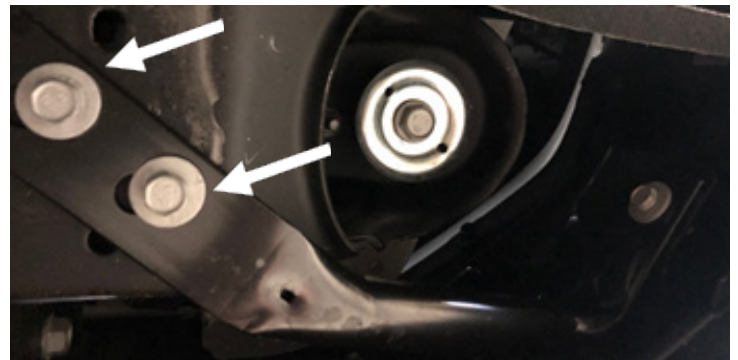

Figure 9
9. From under the truck: use a 15mm socket wrench to remove the two (2) back bolts on the bumper support bracket on both sides. Figure 9.
10. With the grill gone you can access the bumper mounting bolts on the top deck. Use a 15mm socket wrench to remove the two (2) bolts one of the top (Figure 9) and one on the bottom (Figure 10). The bumper can now be removed from the truck. Figure 10-11.